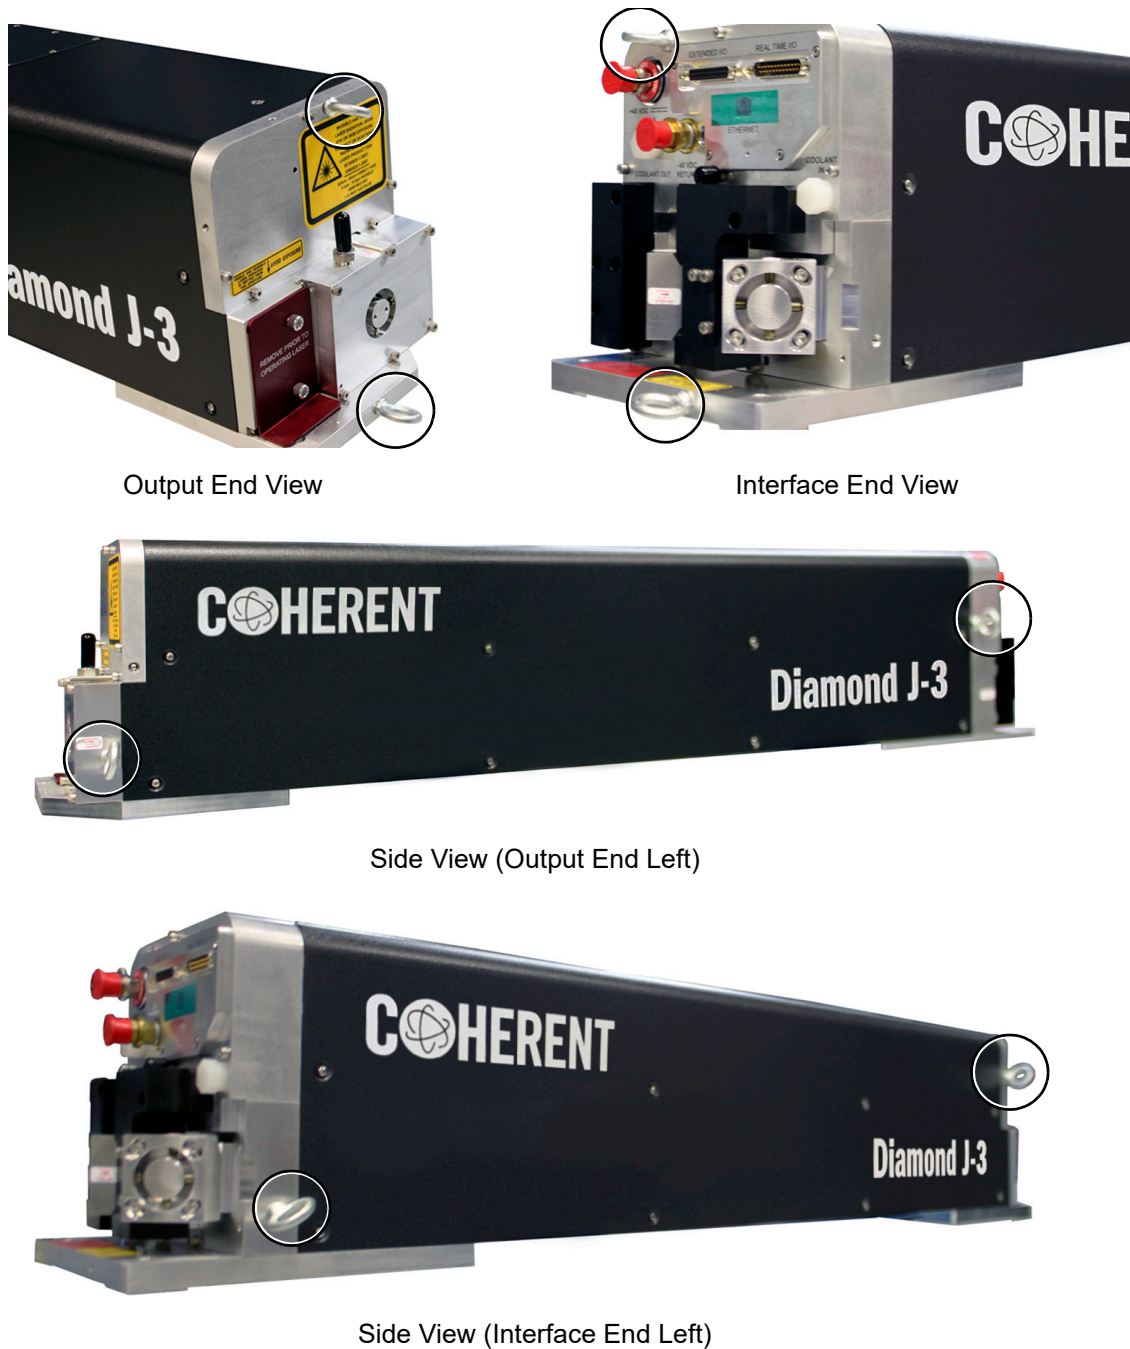
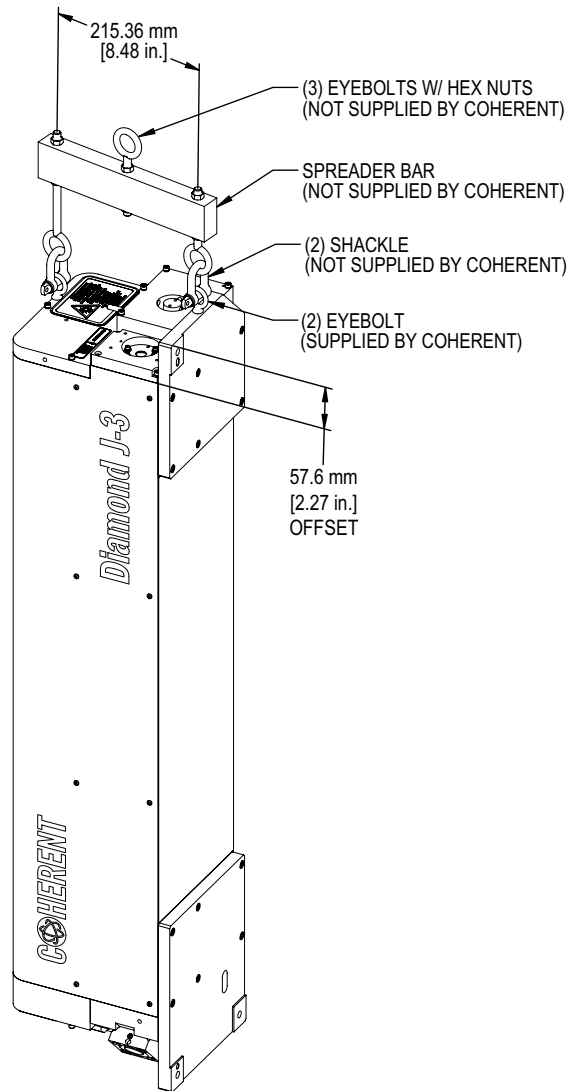

Figure 4-14. Vertical and Side Mounting Eyebolt Positions
Figure 4-15. Vertical Mounting Illustration
1. Install eyebolts into screw holes. See Figure 4-14 for screw hole locations. Do NOT use the top eyebolt locations during vertical lift (refer to Figure 4-15 on page 73).
2. Securely connect appropriate slings or chains to the eyebolts and a user-supplied spreader bar. Chains/slings must be vertical when under load. See Figure 4-15.
3. Carefully lift the laser system while preventing the free end from moving around. See Figure 4-15.